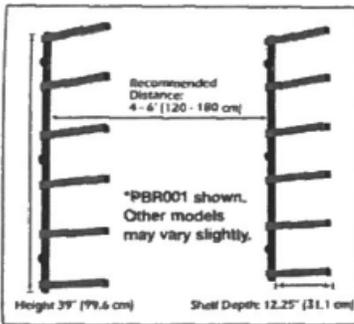

Figure 3
3. Installing to drywall or other paneled wall sheeting: Locating a solid structural support for your Porta mate Wood Rack is very important. Ensure that you are securely contacting the center of the wall studs. Distance between the vertical bars is optional. The recommended distance to support the designed weight capacity is 4-6ft. (120-180 cm). For longer material or greater weight, multiple wood racks can be used. Figure 3. The assembled Wood Rack is $1\frac{5}{8}$ " (41mm) thick so a suitable length of fastener is 3: (76mm) and $\frac{1}{4}$ " (6mm) diameter.